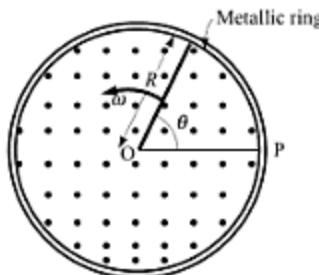

Fig. 5.15
**Solution** There are no steady currents in this example. Only separation of charges takes place in the rotating rod. To find the emf induced in the rod, we imagine a closed loop formed by the rod and a connection between the centre O and a point, say P, on the circumference, with a resistor (Fig. 5.15). If  $\theta$  is the angle between the rod and the radius OP at time  $t$ , the area of the arc formed by the rod and the radius OP is